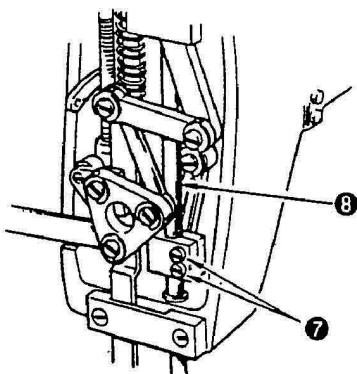

Fig. 14-6
2. Loosen Screws #7 in Fig. 14-6.
4. Firmly tighten the 2 screws #7 Fig. 14-6.